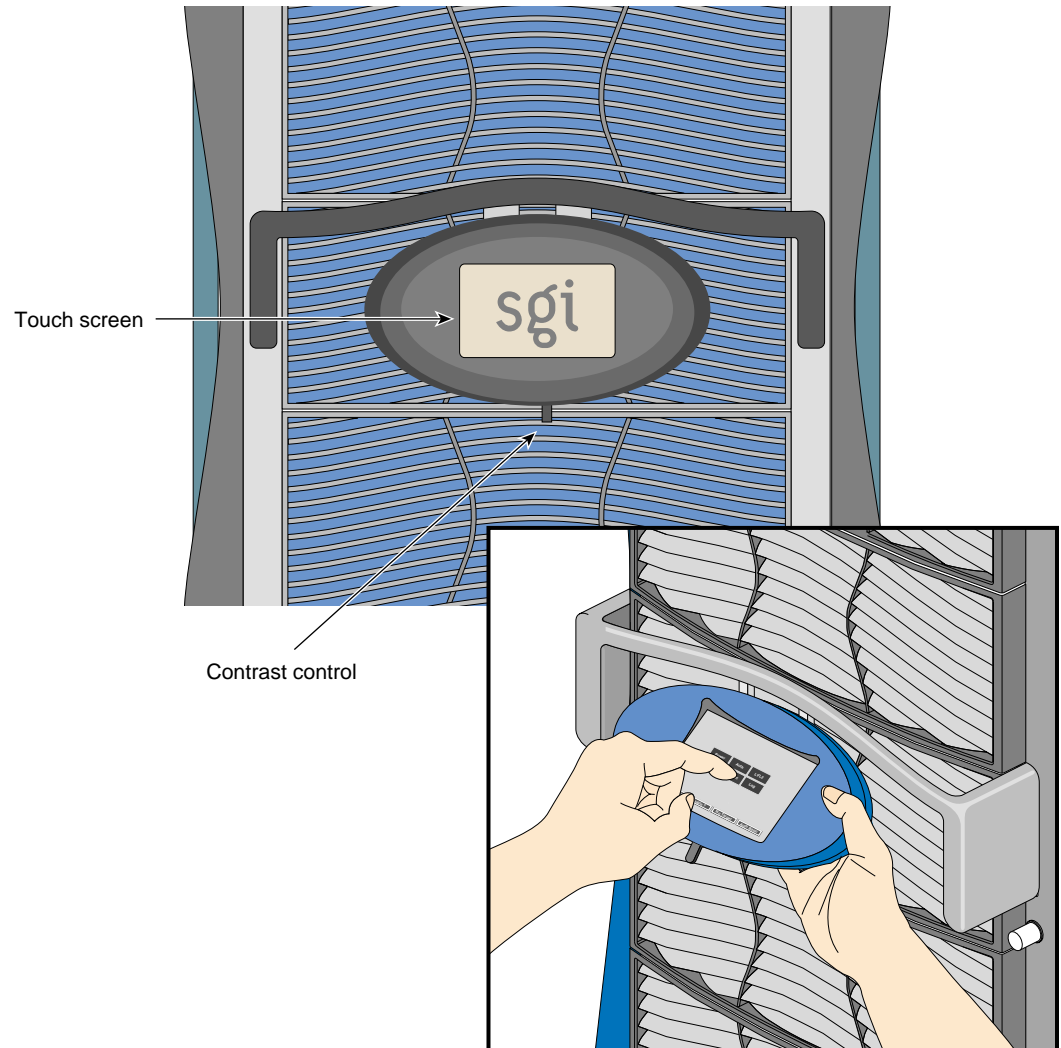

Figure 4-11 L2 System Controller Interface Screen
1. Locate the L2 touch-screen on the front of the system (see Figure 4-11).